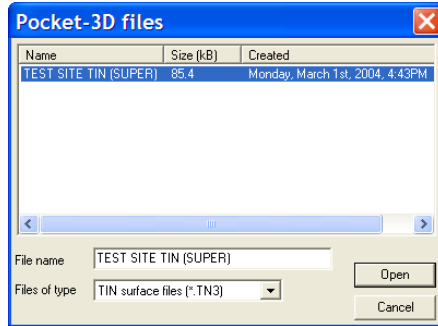

Figure 5-2. Select and Open Pocket-3D TIN File
3. On the *Pocket-3D files* dialog box, select the file to import and click **Open** (Figure 5-2 on page 5-3). The file type is automatically selected.